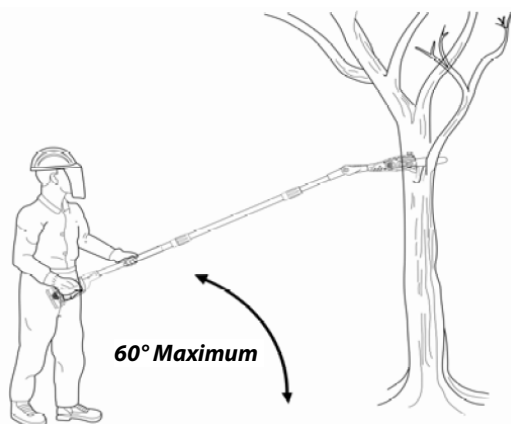

Figure 11
- The most typical cutting application is to position the unit at an angle of 60° or less depending on the specific situation (Figure 11). As the angle of the pole saw shaft to ground increases, the difficulty of making the first cut (from the underside of limb) increases.